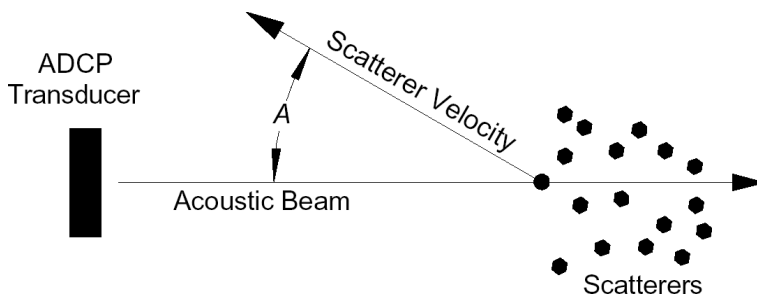

Figure 1: Geometry of the scattering event (RDI, 1996).
Equation (1) is true for a stationary emitter and moving receiver as well as for a moving emitter and a stationary receiver. The velocity  $v$  is positive when emitter and receiver approach each other. Then the frequency shift is positive and the received frequency is larger than  $f$ . When emitter and receiver depart from each other, velocity  $v$  is negative. Then the frequency shift is negative and the received frequency is lower than  $f$ . In any measurement with the ADCP the Doppler effect occurs twice: Firstly the sound pulse is emitted by the transducers of the ADCP and received by the scatterers, and secondly the excited scatterers emit the backscattered sound pulse, which is received back by the transducers of the ADCP. Furthermore, Equation (1) is only true for radial motion, i.e. velocity vectors along the direction defined by transducer and scatterer. Angular motion does not change the distance between emitter and receiver and experiences therefore no Doppler shift. For the geometry shown in Figure 1 and including the doubling, the complete Doppler shift received at the transducers is